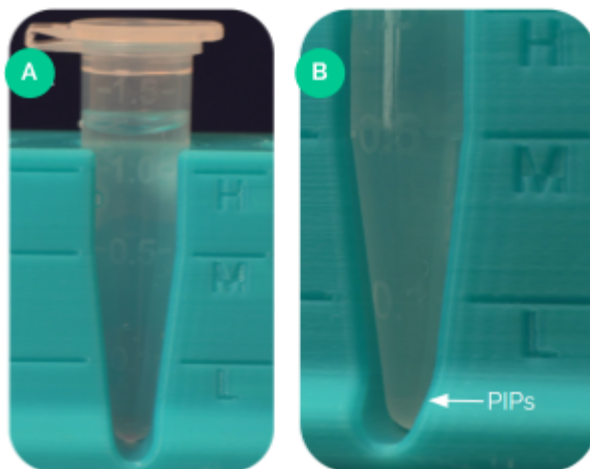

Figure 10. PIPs are difficult to visualize in (A) before centrifugation. PIPs may be seen in the bottom of the 1.5 mL tube during washes (white arrow) in (B).
6. Aspirate and discard the aqueous volume above the 0.1 mL mark on the outside of the 1.5 mL tube (“L” marker on the stand) **WITHOUT** disturbing PIPs pellet (Figure 10).